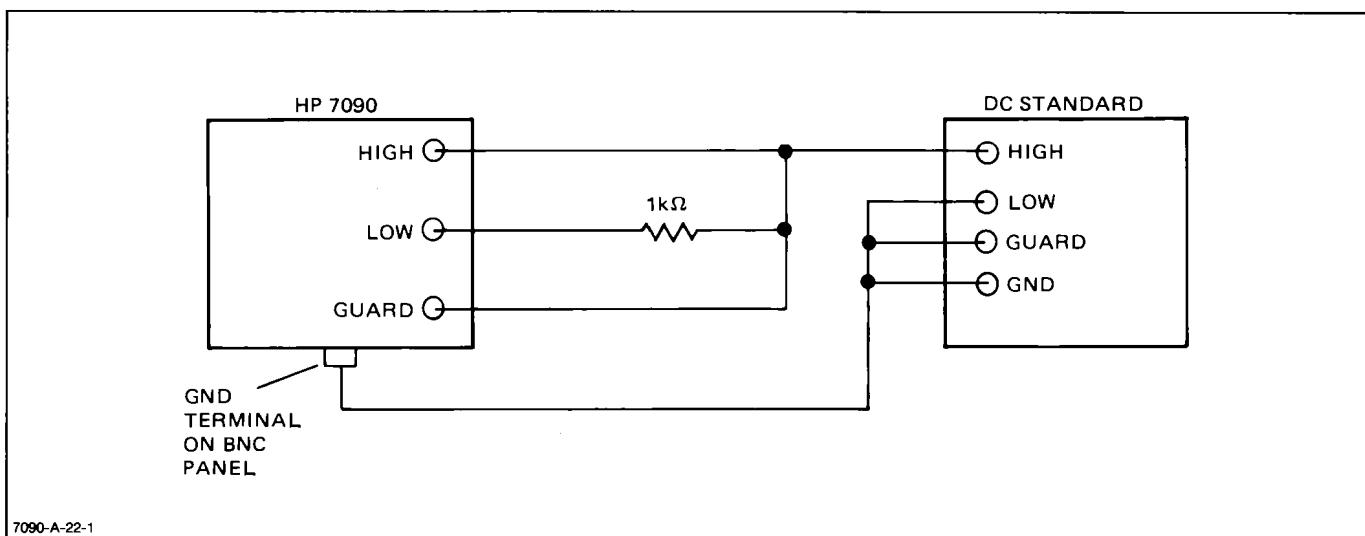

Figure 4-4. DC Common Mode Rejection
- Connect a dc standard to the HP 7090 as illustrated in Figure 4-4.